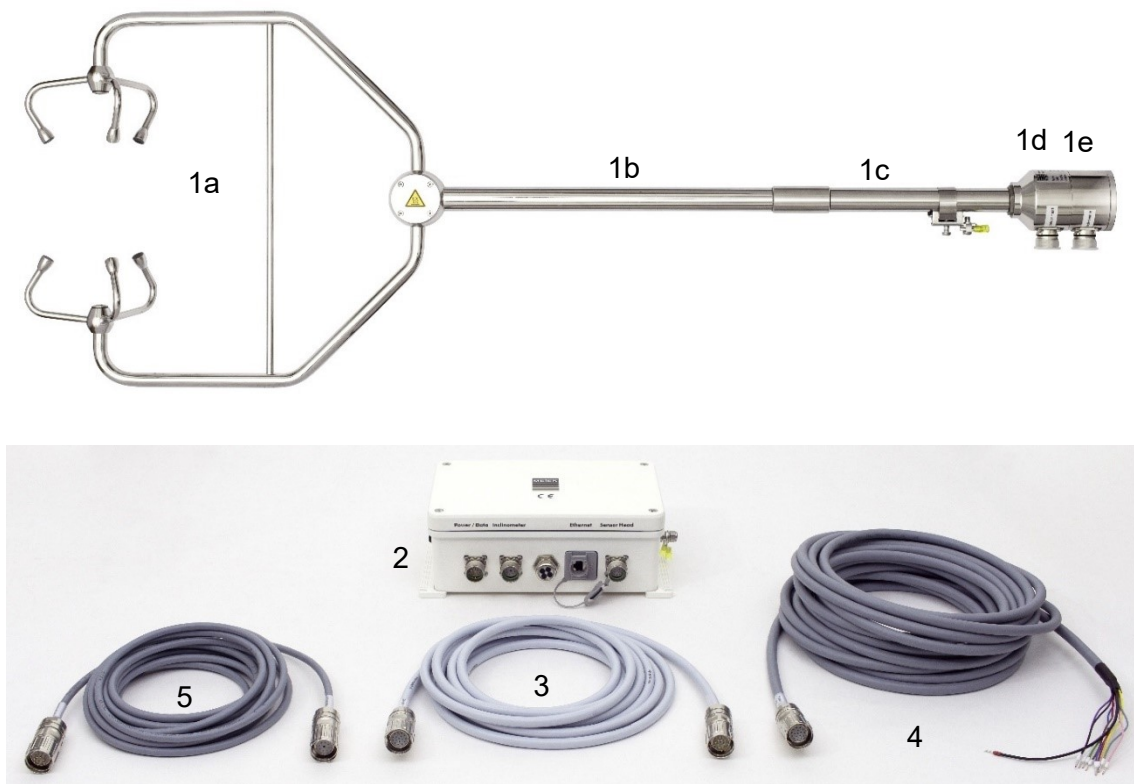

fig. 2: system components of uSonic-3 CLASS-A MP
The uSonic-3 CLASS-A MP consists of the following main components (see fig. 2):
- configured ethernet cable (not shown in fig. 2, optional)